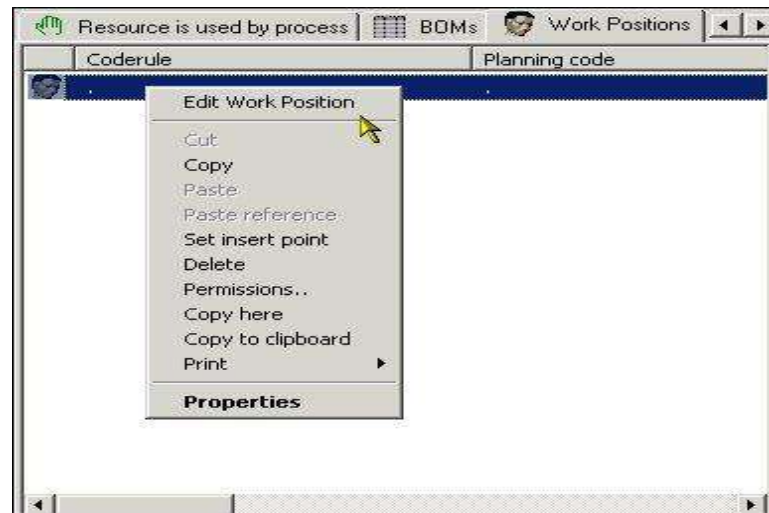

Figure 4: Opening Editing Dialog Box in Object List
- 2) Select the new work position from the object list and open the contextual menu. *Please refer to the Figure 4.*